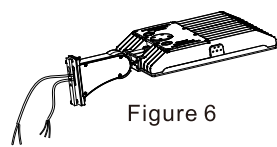

Figure 6
Step 3: Let input wire go through the bracket and lock the bracket. (Figure 6)